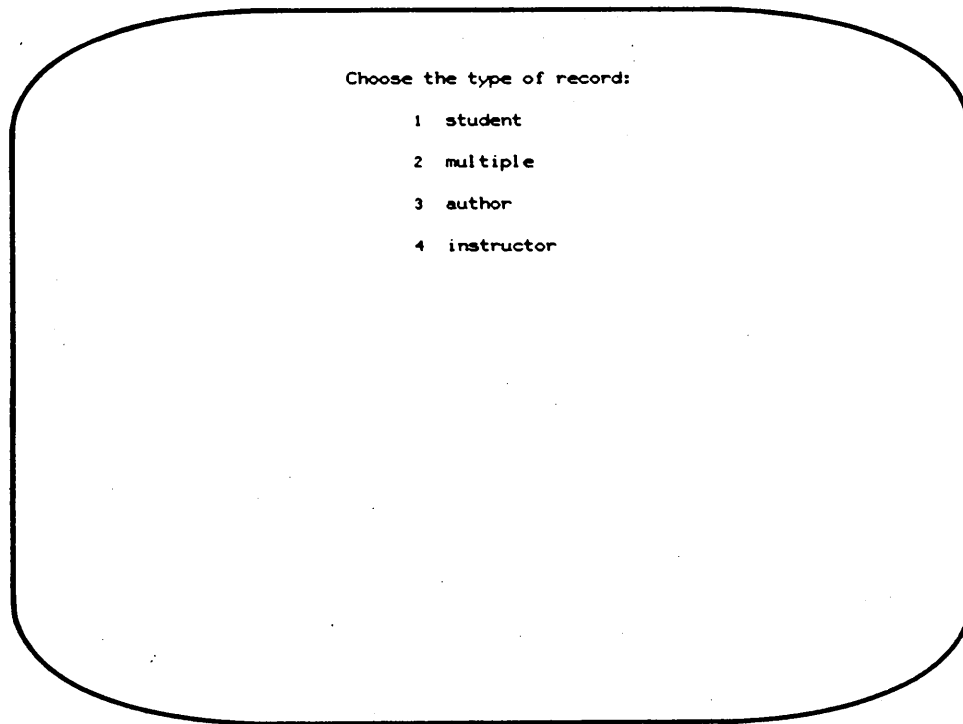

Figure 5-3. Add Option Display
3. Select ADD option by typing the letter in front of it. The next display (figure 5-3) asks you to choose the type of user category in which you want the new person to be.